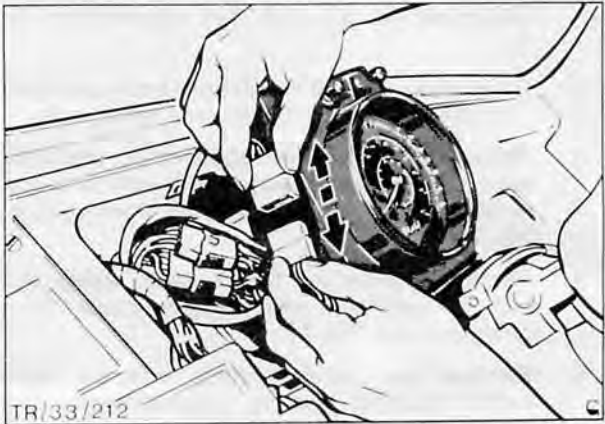

Fig. 23. Disconnect tachograph electrics at multi-plug
3. Disconnect tachograph loom at multi-plug, Fig. 23.